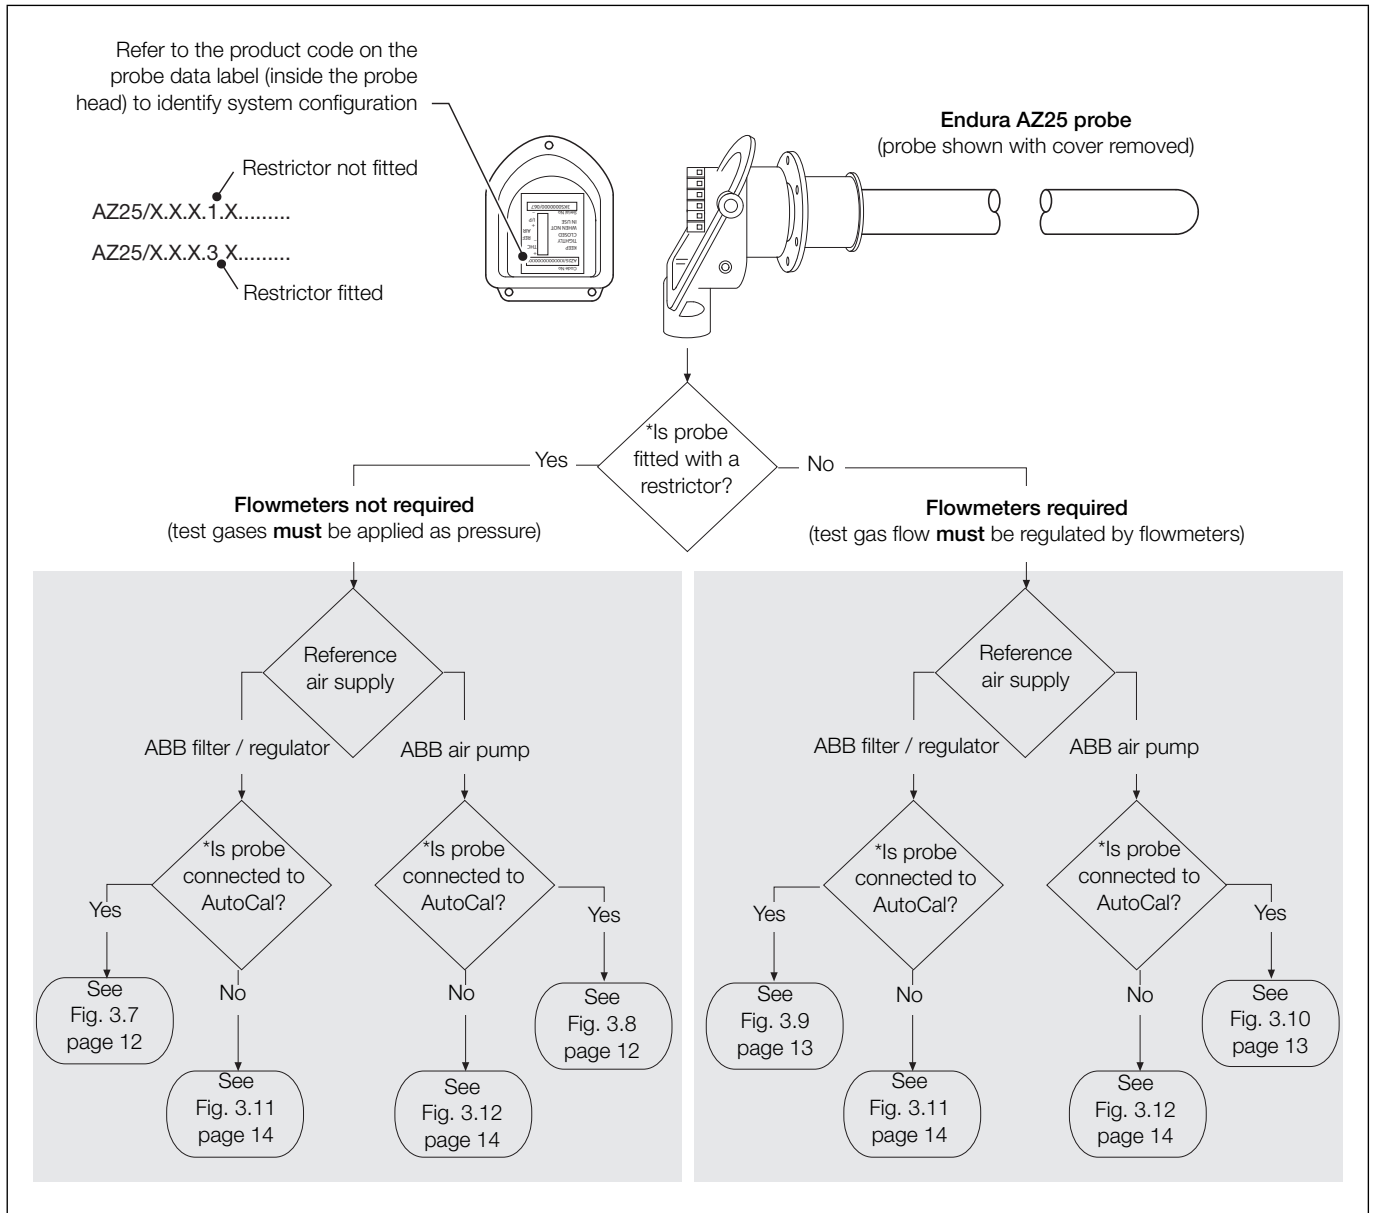

Fig. 3.6 Pneumatic connection configurations (schematic)
- Refer to the flowchart below (Fig. 3.6) to identify which configuration is the closest match for your system and refer to the relevant figure in Sections 3.5.5 (page 12) to 3.5.7 (page 13) for flow rates.